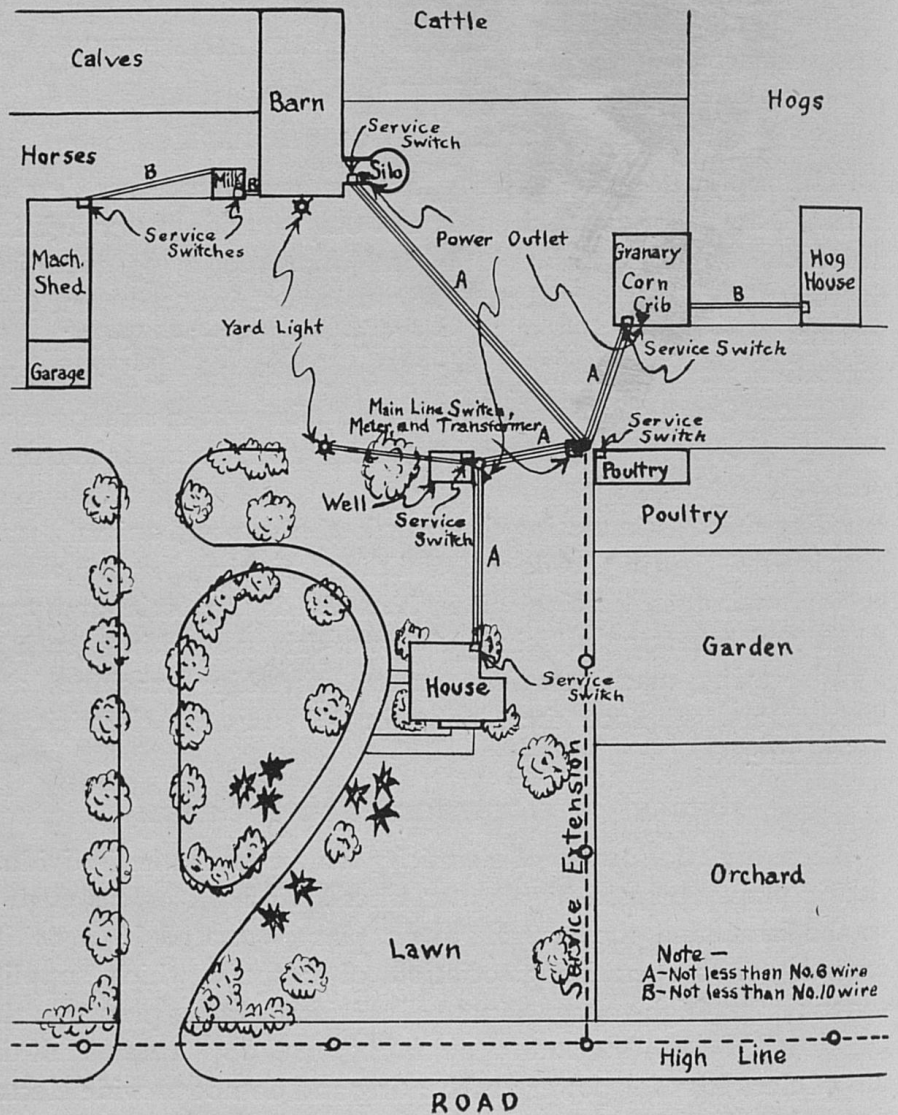

FIGURE 1. A farmstead showing location of buildings and the electrical distribution lines.
2. *Make a Drawing of the Farmstead.* Prepare a simple sketch to scale of the farmstead,\* and locate on it the various buildings. This sketch will aid in locating the transformer pole, the entrance service wires, meter, switches and entrance wires to the various buildings, and in determining the size of wires to use between buildings. See Figure 1.
The transformer is commonly mounted on a pole of the main distribution line at the highway in front of the farmstead. Where the farm buildings to be served are scattered or are located at some distance back from the road, it is advisable to locate the transformer nearer the buildings, at the center of the electrical load, so that the service wires may be as short as possible to distribute the electricity to all the buildings with the least drop in voltage and loss of power. (See Figure 1.)